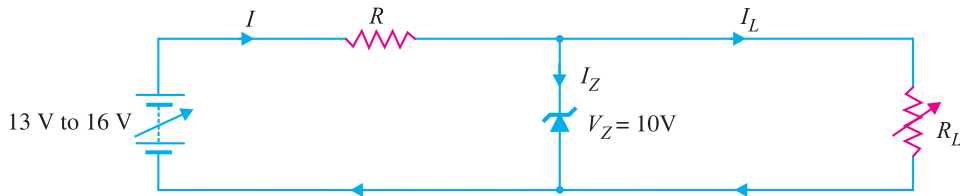

Fig. 6.65
**Example 6.29.** A 10-V zener diode is used to regulate the voltage across a variable load resistor [See fig. 6.65]. The input voltage varies between 13 V and 16 V and the load current varies between 10 mA and 85 mA. The minimum zener current is 15 mA. Calculate the value of series resistance  $R$ .